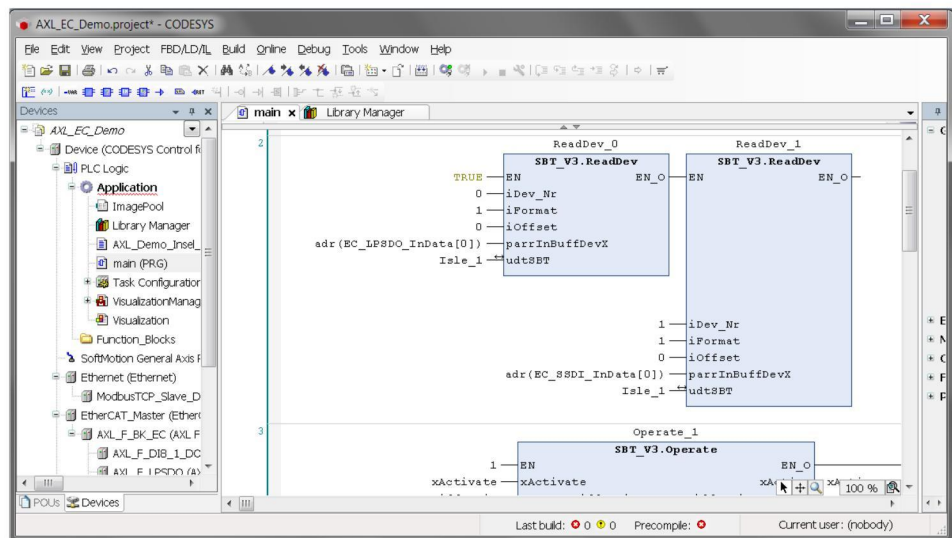

Figure 3-22 SBT_V3.ReadDev function blocks
- Connect the function blocks as shown in Figure 3-22.